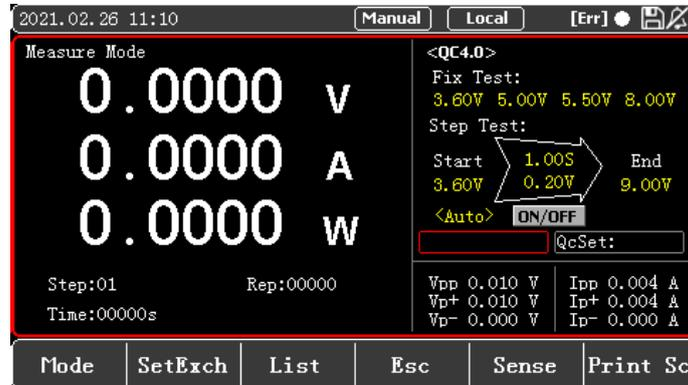

Figure 5-3 <QC4.0> Setting and Display Interface
If the handshake is successful, the status will be displayed as [OK], as shown in the upper right corner of Figure 5-3, otherwise it will be displayed as [Err].
- Single point test can set a voltage of 3.60V/5.00V/6.00V/9.00V. Use the knob and up/down keys to select the voltage to be triggered, and press the enter key  to trigger. If the trigger is successful, the voltage display value will change accordingly, and then press the ON button on the panel to load. If the load is successful, the ON button indicator light will be green, the correct voltage and load value will be displayed on the screen, and the OK symbol will be displayed at the upper right of the screen, as shown in Figure 5-3, which is the interface after the successful 5.00V/1.000A load. If Err appears on the upper right of the screen during the loading process, users need to check whether the loaded value and the test parameter value exceed the specification range of the loaded object and need to be reset.
- The step test function is used to test the performance of the object under test by continuously triggering different voltage points in automatic/manual mode. The parameters that can be set include: start voltage, step voltage, step time, end voltage, and step mode. As shown in Figure 5-3, users can set the start voltage of 5.00V, end